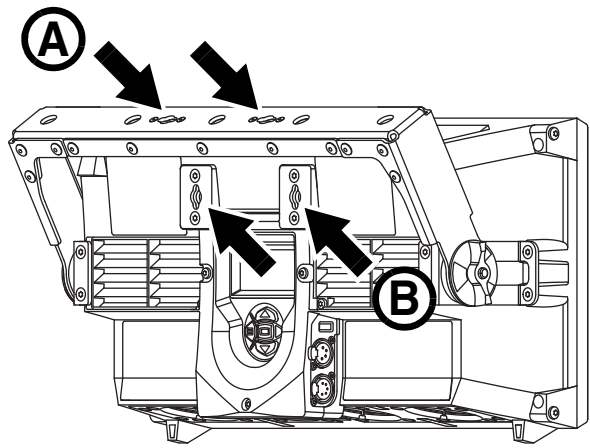

Figure 5: Omega bracket fastening points
2. See Figure 5. Fasten the omega bracket to the fixture's mounting bracket at **A** (or to the fixture housing itself at **B**) with quarter-turn fasteners. Fastening to the mounting bracket is preferable, as this will let you adjust the aim of the fixture.